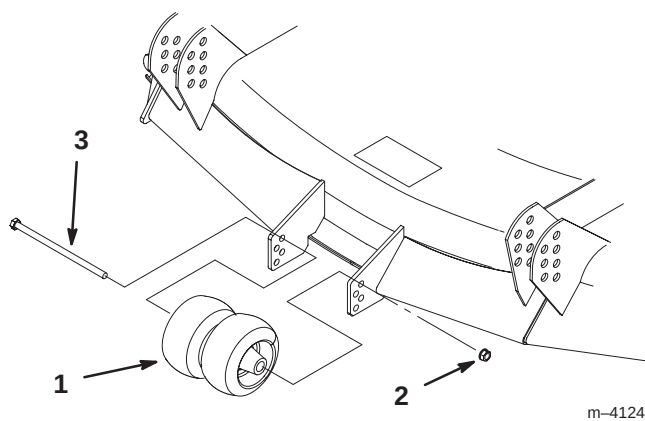

Figure 11
1. After adjusting height-of-cut remove bolt and nut (Fig. 11).
2. Select a hole position so the gage wheels are $\frac{3}{8}$ " (9.5 mm) off the ground for the height-of-cut to be used (Fig. 11).
3. Reinstall the bolt and nut (Fig. 11).